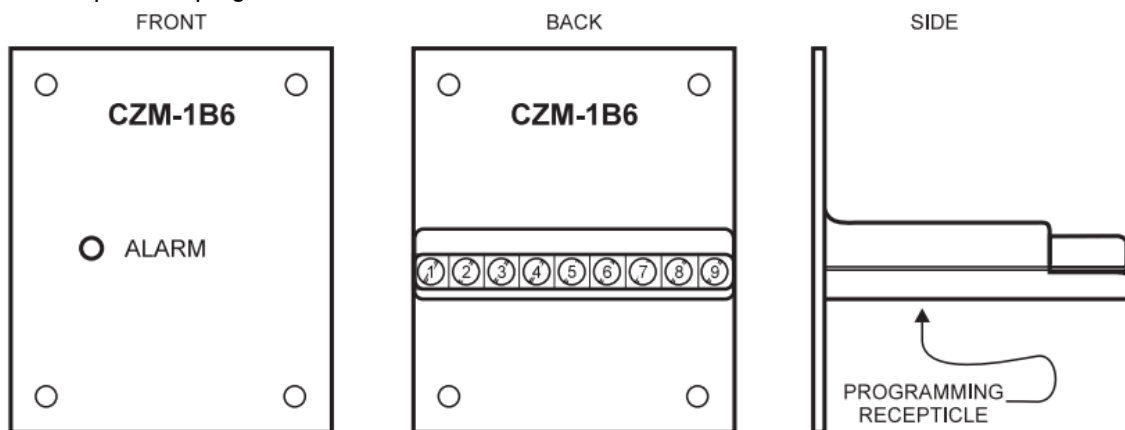

Figure 1
Each CZM-1B6 can be assigned a 32 character custom alphanumeric message. A multicolor LED, visible through the cover plate, indicates the condition of the circuit. This multicolor LED displays red for alarm, yellow for trouble, and green for normal operation (See Figure 1).
1. Using the DPU Device Programming Unit or FPI-32 Programmer/Tester, plug the programming cable into the programming receptacle on the CZM-1B6 (See Figure1).